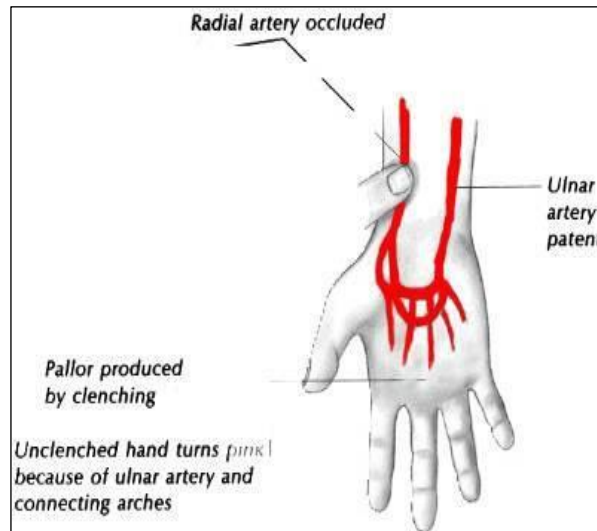

Figure 1.
- The MO performing the procedure should do an Allen's Test to ensure adequate distal blood flow (see Figure 1).